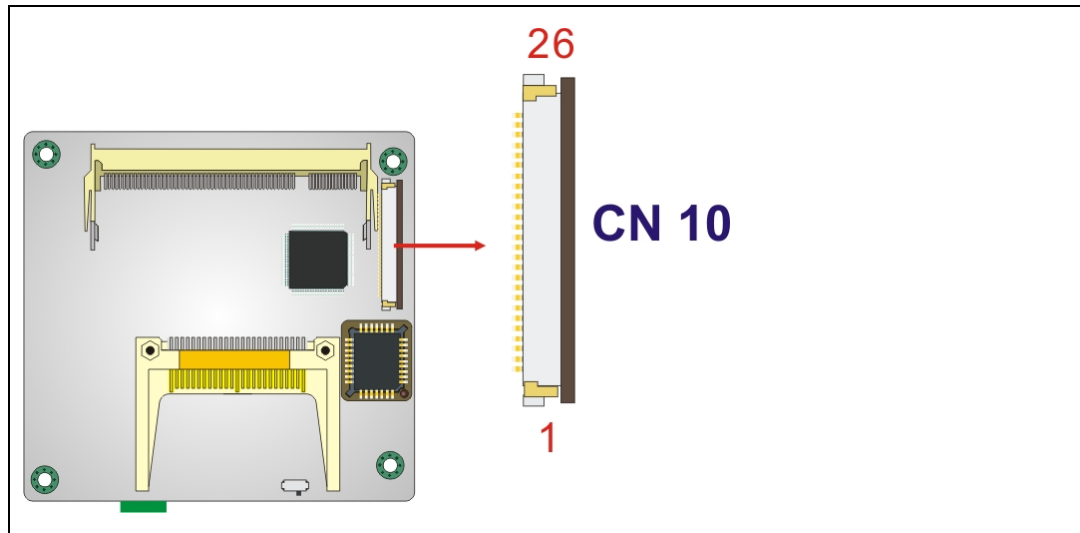

Figure 3-8: 26-Pin FDD Connector Location
- CN Location:** See Figure 3-8